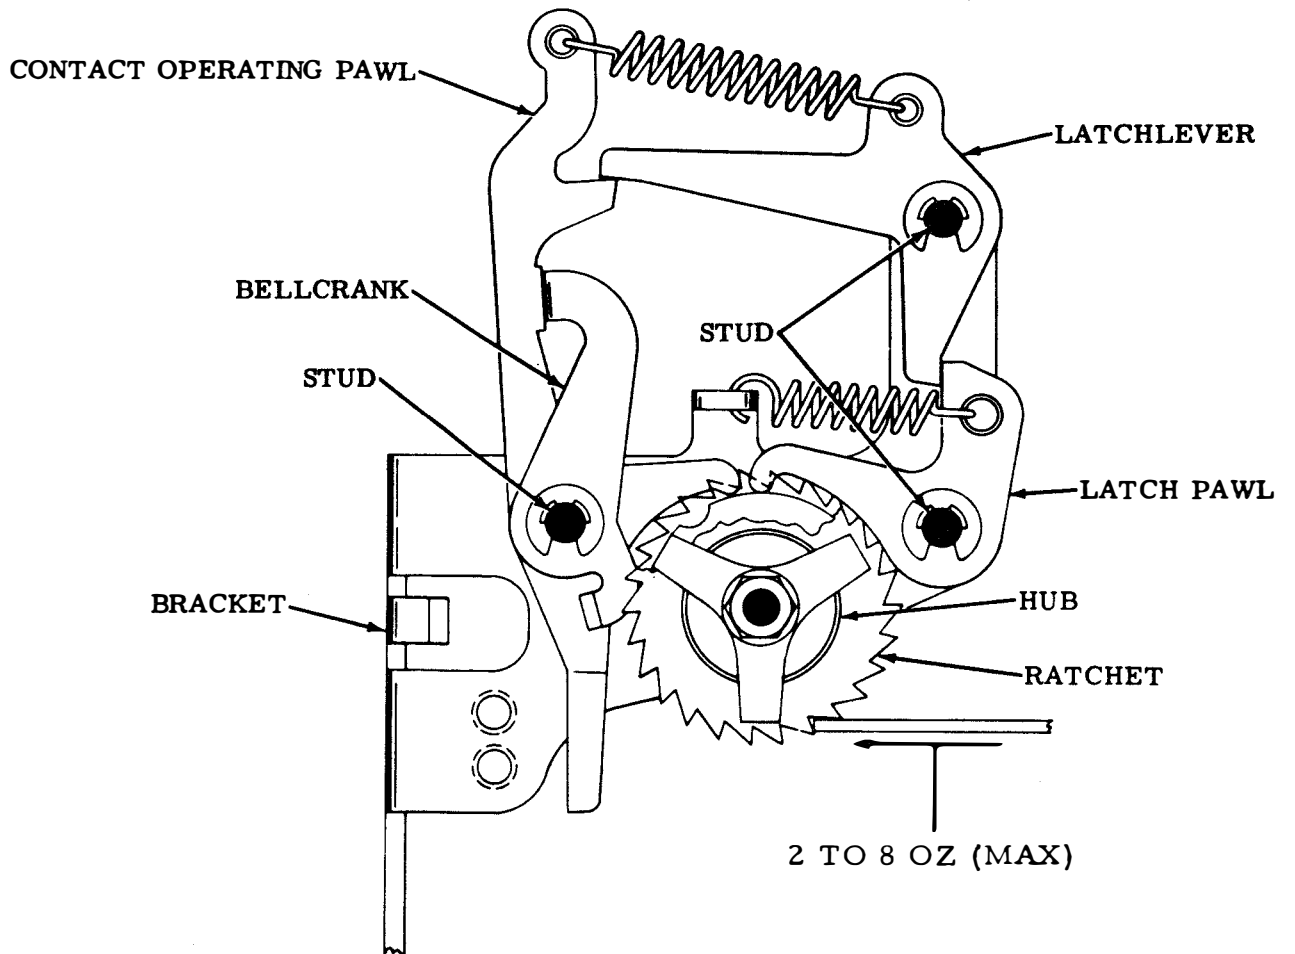

Figure 6-238. Time Delay Ratchet Wheel
(1) Time Delay Ratchet Wheel Tension. Adjust as follows:
- (a) Refer to figure 6-238.